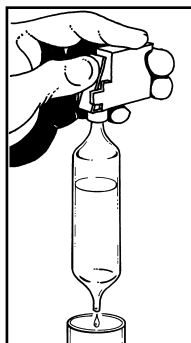

Figure 1
2. While holding the double-tipped ampoule in a vertical position, snap the upper tip using the tip breaking tool (fig. 1).
3. Invert the ampoule and position the open end over the reaction tube. Snap the upper tip and allow the contents to drain into the reaction tube (fig. 1).